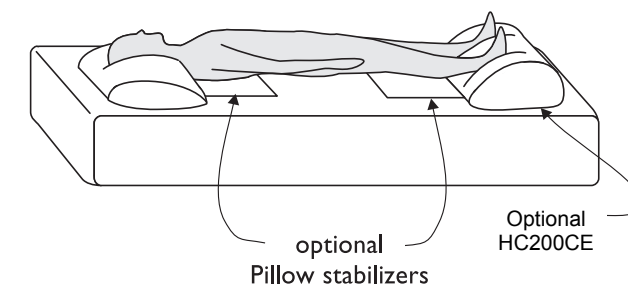

Figure 7—Positioning the pillows
7. Place the head pillow in the optional stabilizing pillowcase (CLS110, disposable; CLS115, reusable). See figure 7. Position the pillow at the head end of the mattress, making sure the flap of the stabilizer will be under the patient's back.